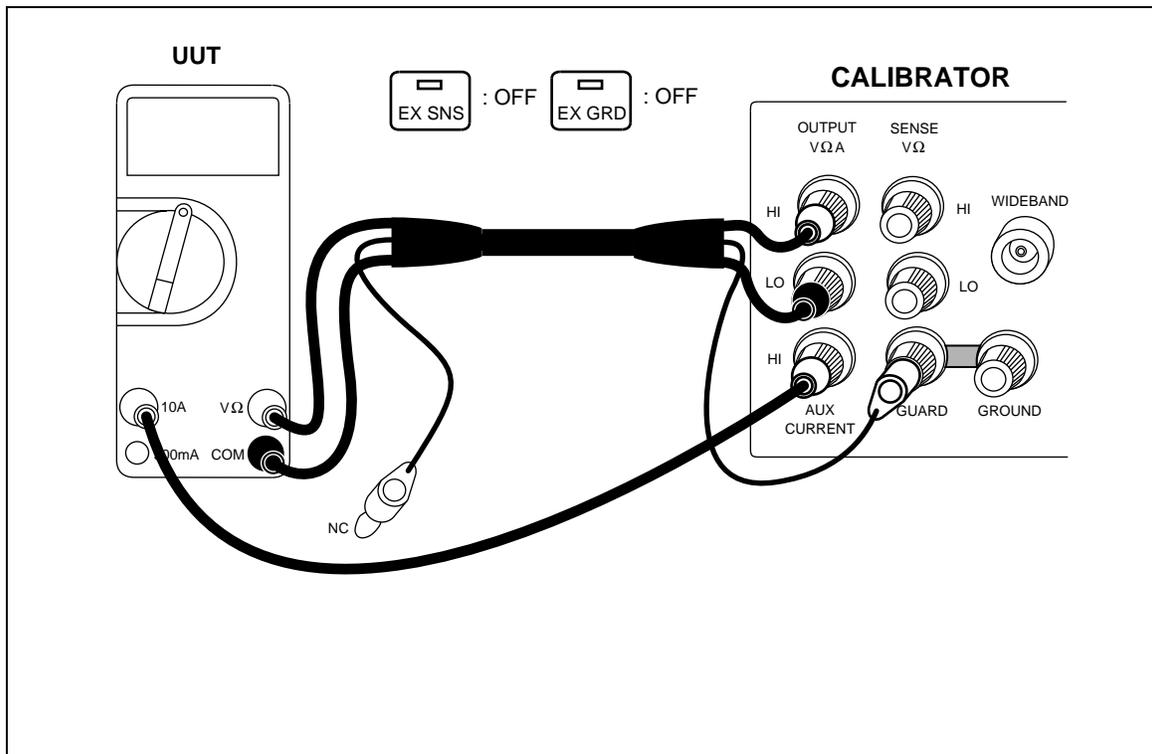

Figure 4-11. Cable Connections for Testing a Fluke 70-series DMM
- a. Verify that the calibrator is in standby and connect the DMM as shown in Figure 4-11.